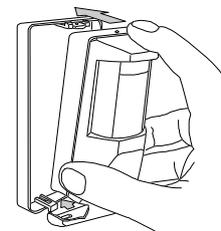

Figure 5. Replacing the Cover
- C. To close the front cover, insert the legs located at the bottom of the base into their respective slots in the bottom of the cover and close by exerting slight upward pressure (Fig. 5).